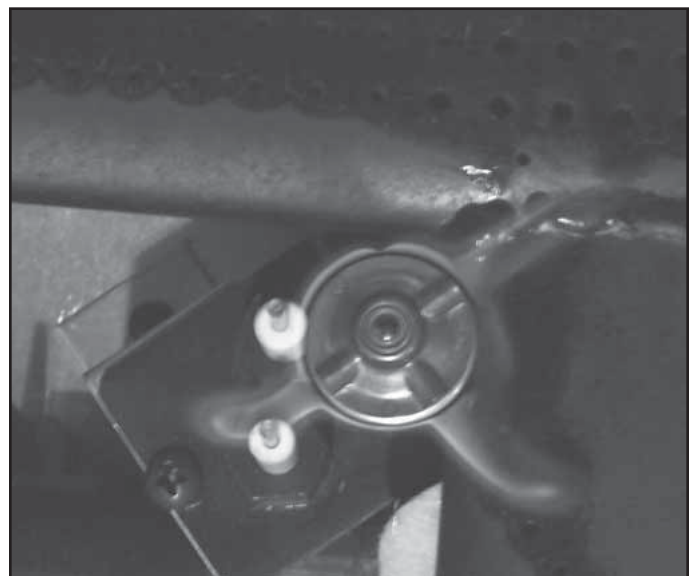

Figure 3.1 IPI SIT Pilot Flame Patterns
- Inspect pilot flame pattern and strength. See Figure 3.1 for proper pilot flame pattern. Clean or replace orifice spud as necessary.